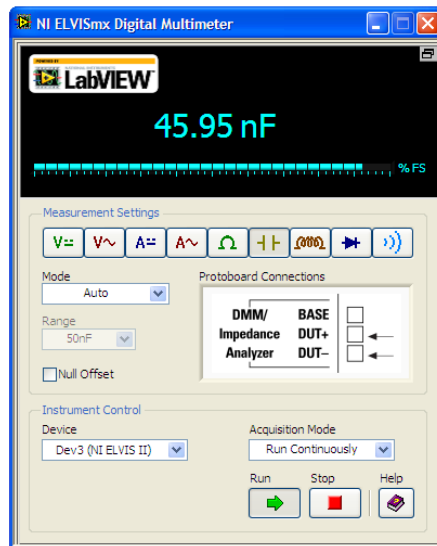

Fig. 10. Digital Multimeter SFP indicating the capacitance value.
16. Click the Capacitance button to use the Digital Capacitance Meter function to measure the value of the capacitance. Once the measurement is successful the output should appear as show in figure 10.